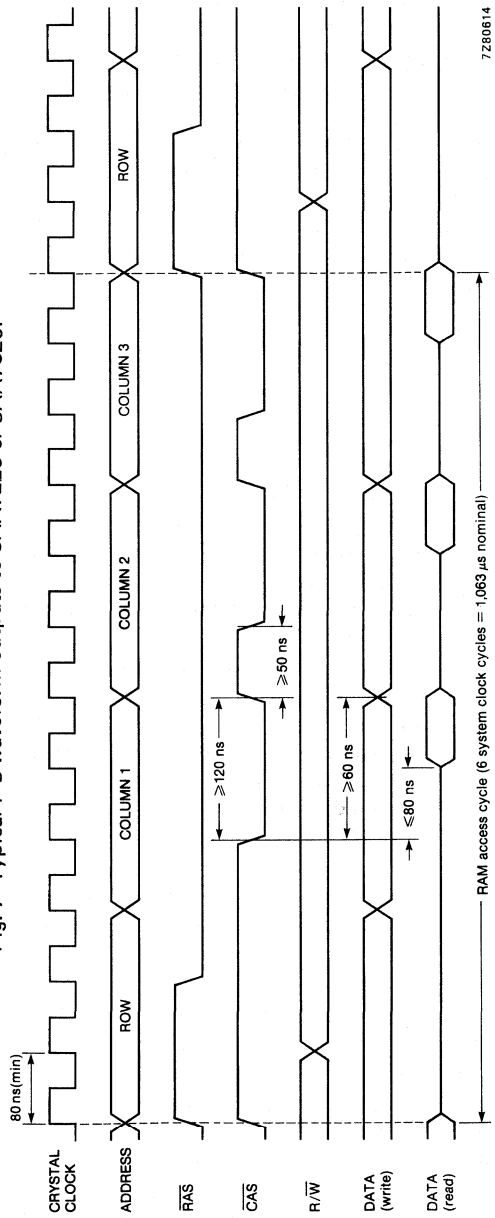

Fig. 8 RAM timing waveforms: timings based on RAM TMS4416; \bar{G} input to RAM held LOW.
The RAM interface uses the full crystal frequency of 11,2 MHz to determine the RAM access wave-forms (the main clock for the system is 5,6 MHz). One RAM access (READ or WRITE) uses 12 crystal clock cycles which is approximately 1 μ s. The timing (see Fig. 8) is based upon the specification for the dynamic 16 K x 4-bit RAM (4416). This RAM requires multiplexed address signals and therefore, in each access cycle, a row address \overline{RAS} pin 9 (15) is set up first and then three 4-bit nibbles are accessed using sequential column addresses \overline{CAS} pin 15 (22). As only 10 bits are used for each symbol (including flags), the fourth nibble is not accessible.